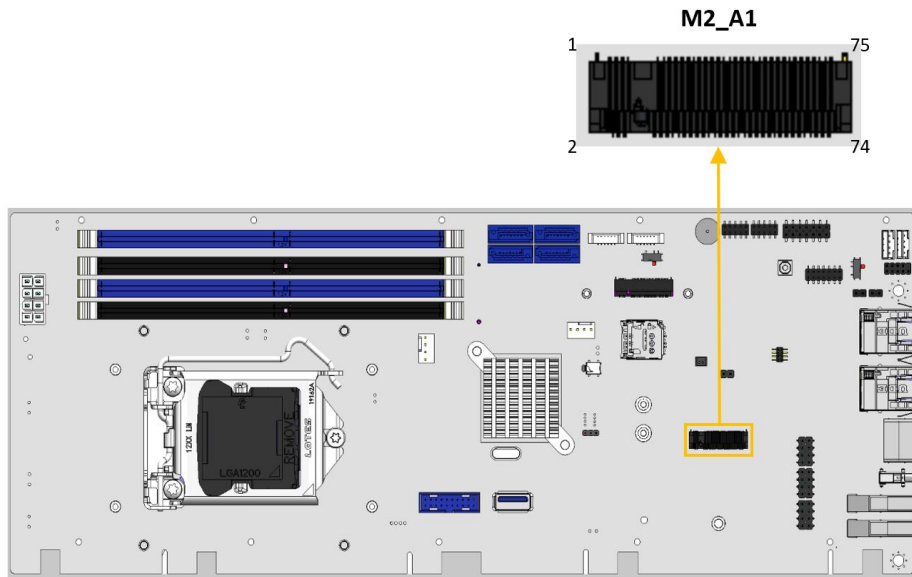

Figure 3-14: M.2 A-key (2230) Slot Location
- CN Location:** See Figure 3-14